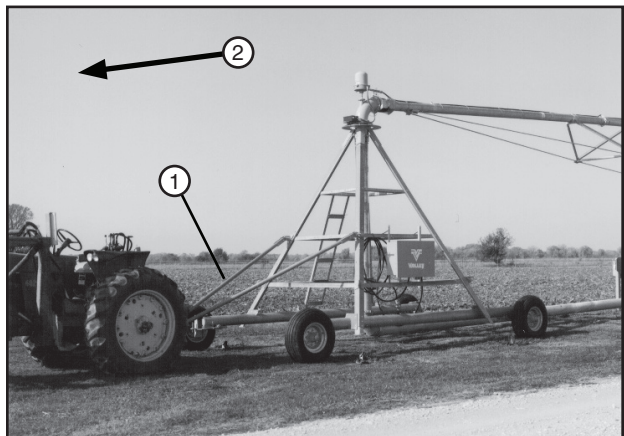

Figure 60-3 1. Tongue
10. If the pivot wheels are in line with the span, move the tongue to the side of pivot that faces the towing direction. See figure 60-3. Then proceed to step 18 of these instructions.